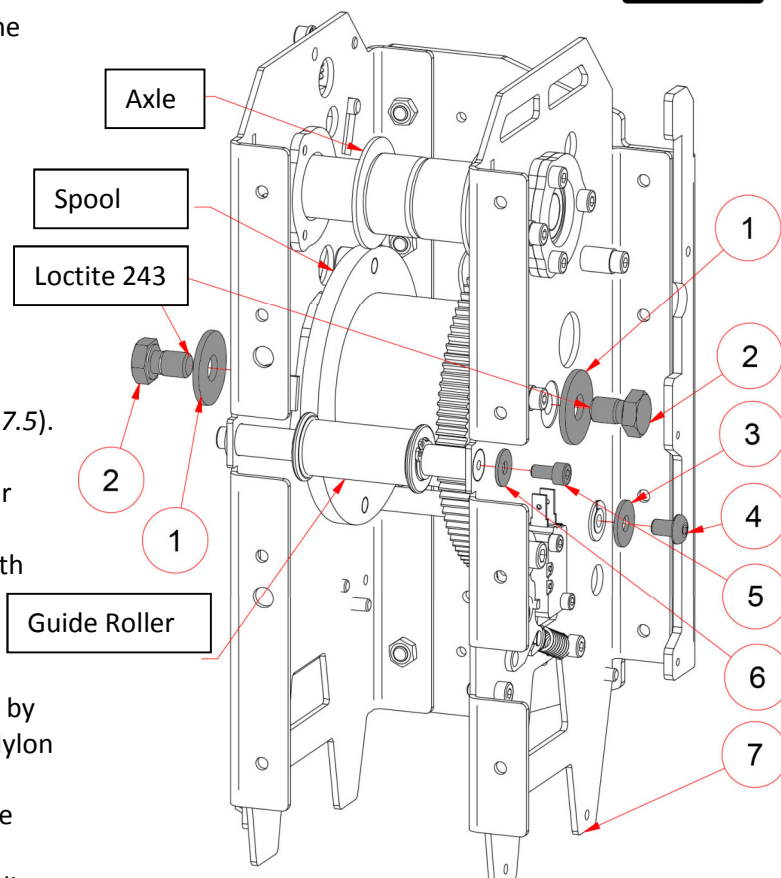
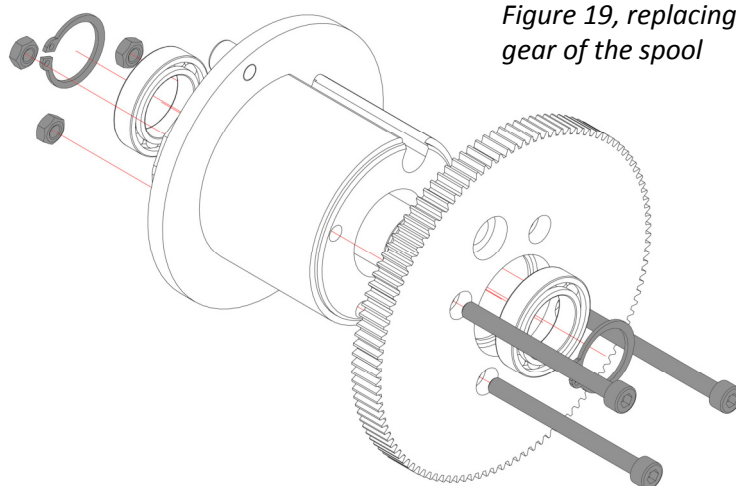

Figure 18, disassemble Side Plate
Figure 19, replacing gear of the spool
12. Disassemble the bolts 2, 3 and 5 at both sides (*Figure 18*).
13. Remove Side Plate (7) by hitting it with a hammer of the axles.
16. Make sure that after replacing the circlips (*Figure 19*) and Loctite placed on the 4 bolts.
17. After replacement, hit the axles in the Ceiling Hoist as *Figure 18* with a nylon hammer.
18. Assemble the Ceiling Hoist vice versa. Add Loctite 243 (2x) on bolt 2 of *Figure 18*.